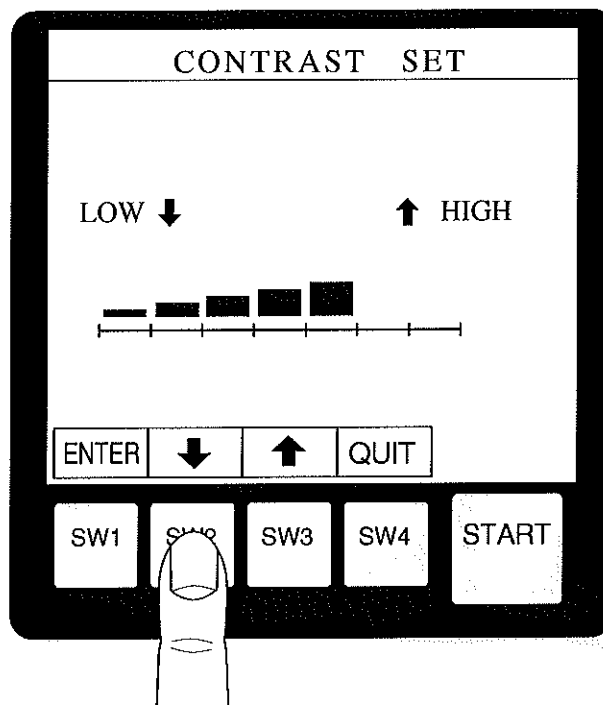

Fig.17-1
- b) Use the SW2(↓) or SW3(↑) key to adjust the arrow(→) to "6 CONTRAST". Press the SW1(ENTER) key. The display switches to a screen as shown in Fig. 17-1.